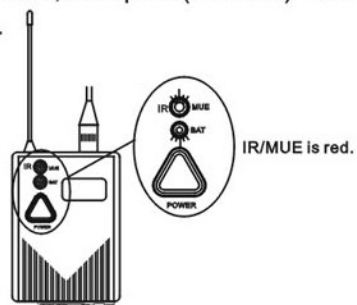

FIGURE 23
- 2.If it need to adjust code(adjust channel), enter the adjusting code mood. After 20 seconds approximately, the IR green light black out, exit the adjusting code . The MUE BAT light, indicate entering mute. If needn't adjusting code, short press(1 second) POWER button, BAT light only; enter normal operation(Figure 23).